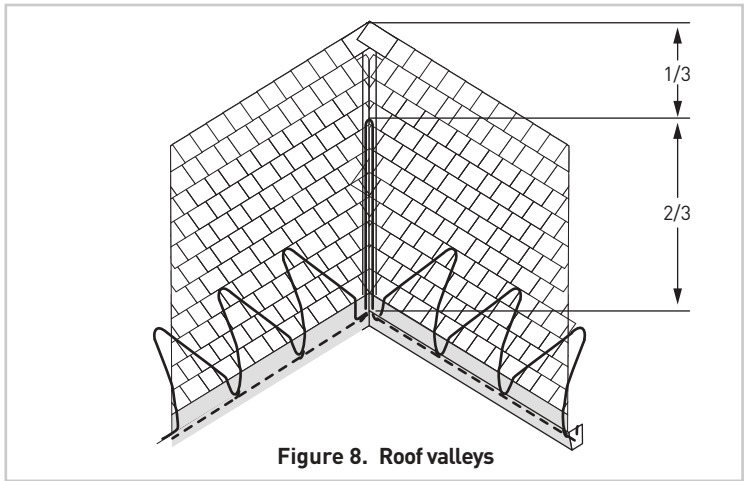

Figure 8. Roof valleys
- Trace two-thirds of the way up each valley with a double run of heating cable as shown in Figure 8.